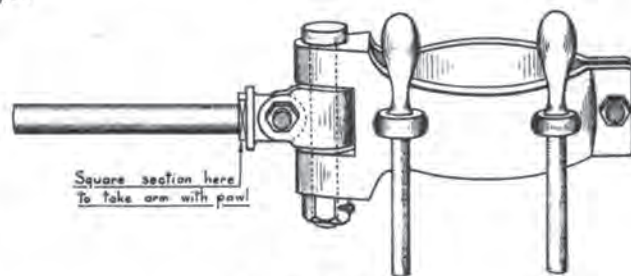

Fig. 15.—Gooseneck
E. *Worth's Pattern*.—This is made by Messrs. Pascall Atkey & Son of Cowes as described in *Yacht Cruising*. It is of the ratchet type, but the twisting strain is taken by a chain secured to the deck. It is the safest of all gears, but expensive, and is only made in sizes for a 6 in. mast and above. With types B, C, and D a heavy twisting strain is put on the bolt of the gooseneck. Fig. 15 shows a method whereby this pin is held by two lugs on the mastband instead of by one as is the usual practice.